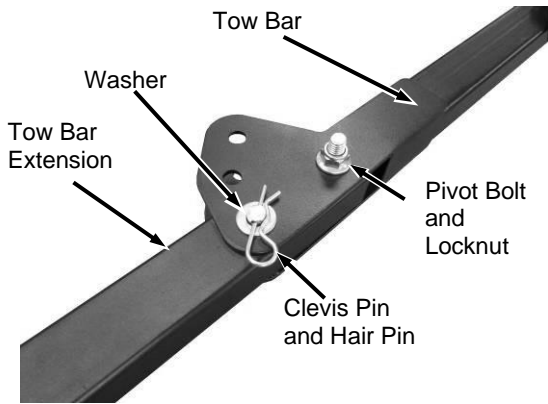

Figure 27
5. Remove the Hair Pin, Washer, and Clevis Pin from the Tow Bar (**Figure 27**).